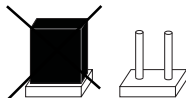

Figure 8
- The 'JP1' jumper (K) must be removed (see figure 8, right).